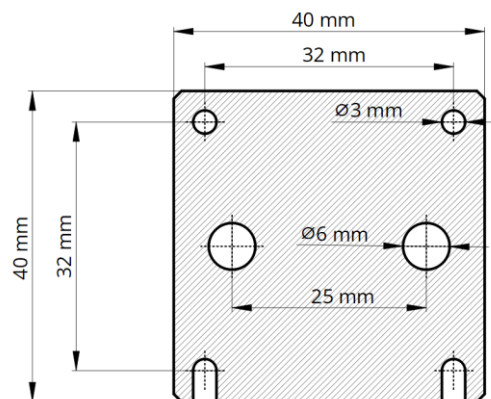

Figure 8.3. Mounting bracket dimensions.
3. **Custom mounting.** The solar simulator lamp can be mounted to any user-supplied mounting platform using four M3 bolts and/or two M6 bolts, so long as there is unrestricted airflow 5 cm above and below the lamp unit. The mounting bracket dimensions are shown in **Figure 8.3**.